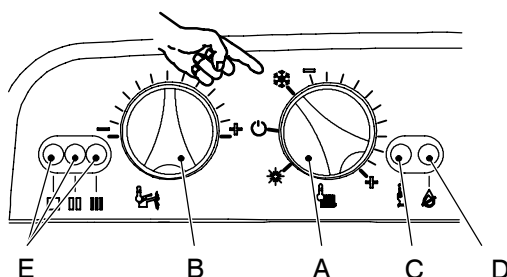

Fig. 46
- 10 Turn the boiler OFF and ON positioning the function selector knob A as indicated in Fig. 46